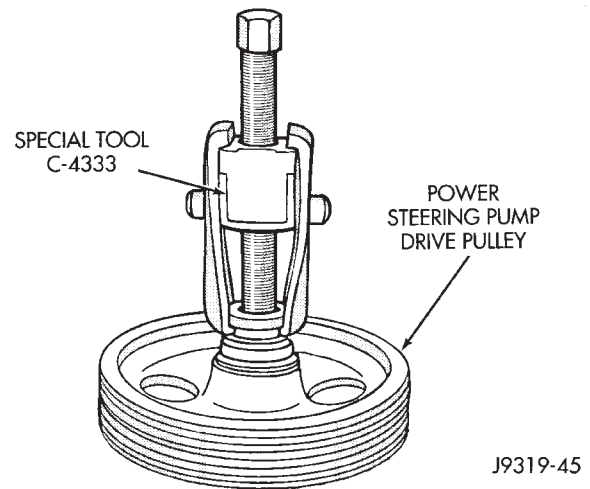

Fig. 4 Remove Drive Pulley (Typical)
(5) Remove lower nut at adjustment bracket.
(6) Remove adjuster bolt.
(7) Remove upper pivot bolt.
(8) Tilt pump forward and remove pump and front bracket assembly from engine bracket.
(9) Remove adjuster collar at lower stud on pump bracket.
(10) Remove pulley from pump. Refer to Drive Pulley Replacement in this section (Fig. 4).
(11) Remove 3 adjustment bracket-to-pump bolts.
- (1) Remove power steering pump. Refer to Pump Replacement in this section.
- (2) Remove the drive pulley with Puller C-4333 (J-25034-B) (Fig. 4).